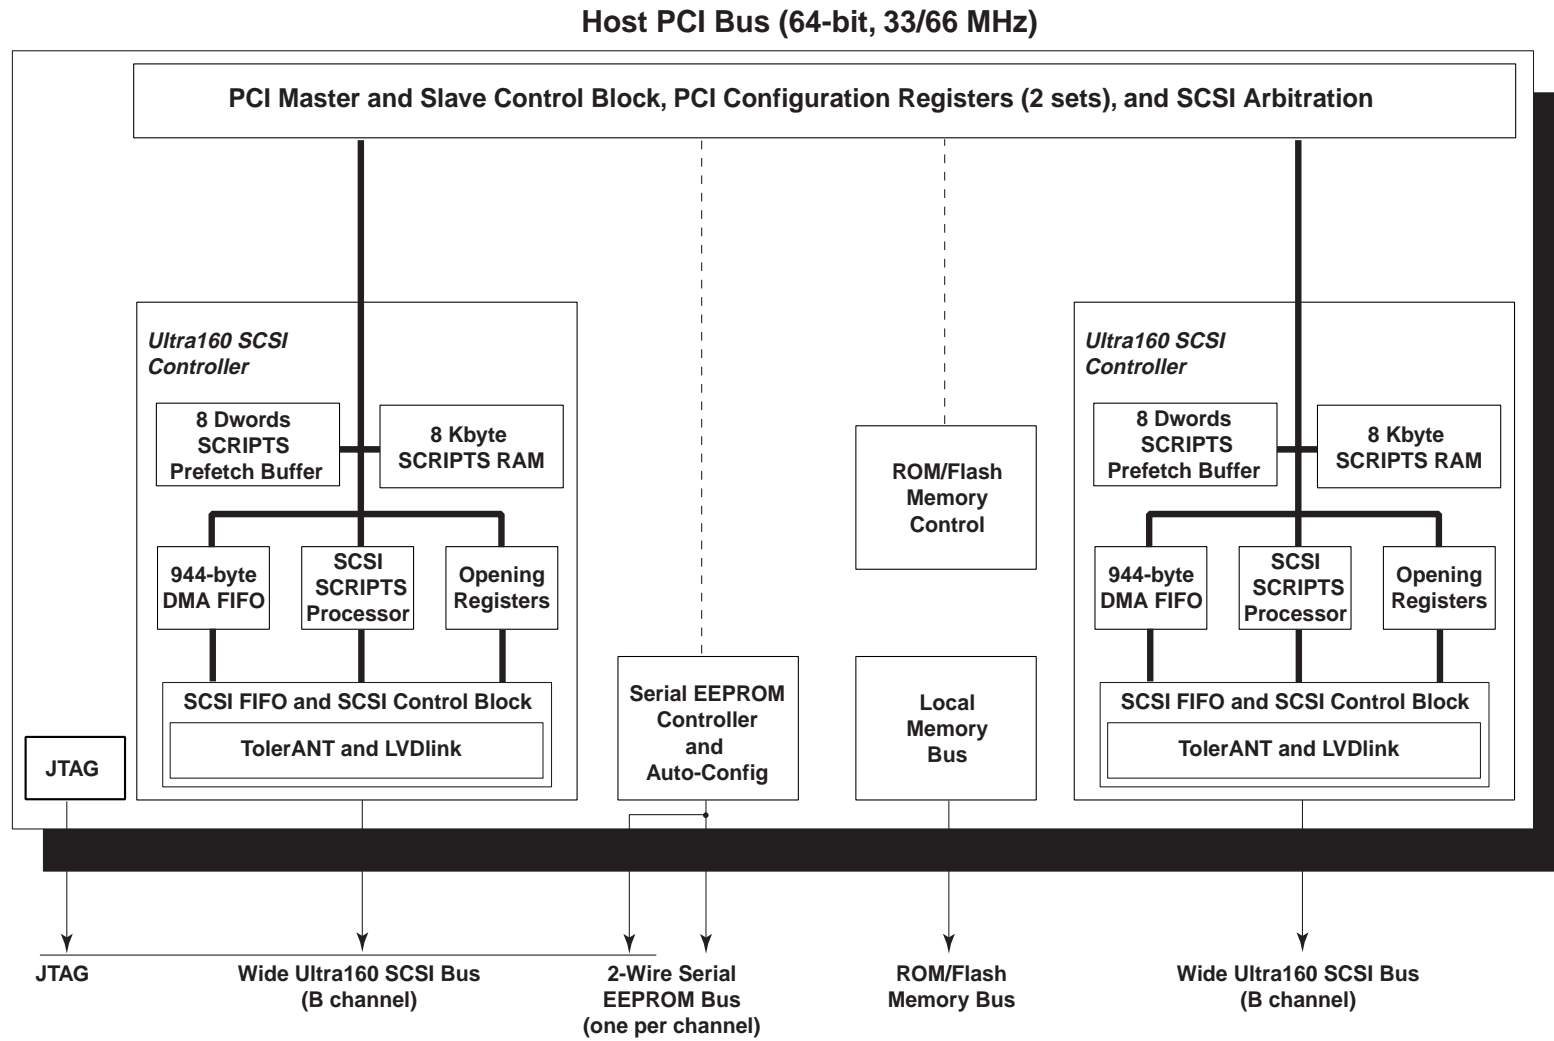

Figure 1 SYM53C1010 Functional Block Diagram
- Figure 1 SYM53C1010 Functional Block Diagram 16
The SYM53C1010 uses the same proven CRC algorithm used by FDDI, Ethernet and Fibre Channel, and detects all single bit errors, double bit errors, odd number of errors, and all burst errors up to 32 bits long. To provide complete end-to-end protection of the SCSI I/O, AIP protects all non-data phases, augmenting the CRC feature of Ultra160. SureLINK™ domain validation technology detects the configuration of the SCSI bus and automatically tests and adjusts the SCSI transfer rate to optimize inter-operability. The SYM53C1010 controller and Ultra160 provide Basic (Level 1) and Enhanced (Level 2) domain validation, while the SYM53C1010 has an added feature of Margining (Level 3) domain validation. Figure 1 on page 16 shows the functional block diagram for the SYM53C1010.